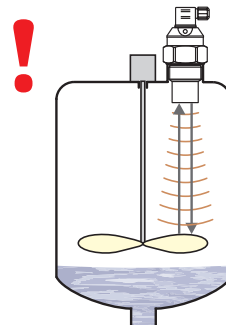

Fig. 13: False reflection caused by mixer blade
- r) The level meter should not be installed at places where ultrasonic signal **false reflections** caused by stirrer blades might occur (Fig. 13).